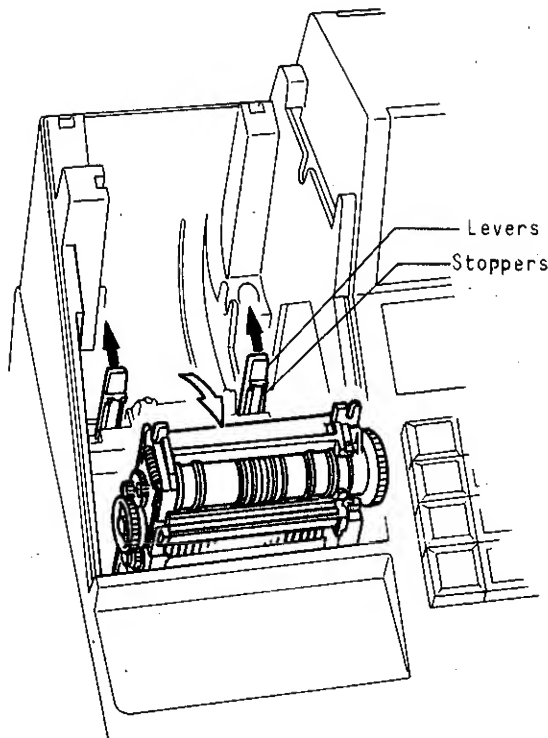

Fig. 6
2. Pull up the rear plastic edge of the printer (black-colored) to unlock the stoppers (white-colored) while pressing the plastic levers rear-ward (white-colored) on both sides of the Printer Holder that is fixed on the drawer unit. (One lever at a time will ease unlocking.) (Fig. 6)
3. Let the Printer Unit stand upright as shown in Fig.6. (Do not attempt to remove the unit entirely from the holder otherwise, the attached cables might be damaged.) The Ink Roller is set in the middle of the bottom of the unit.